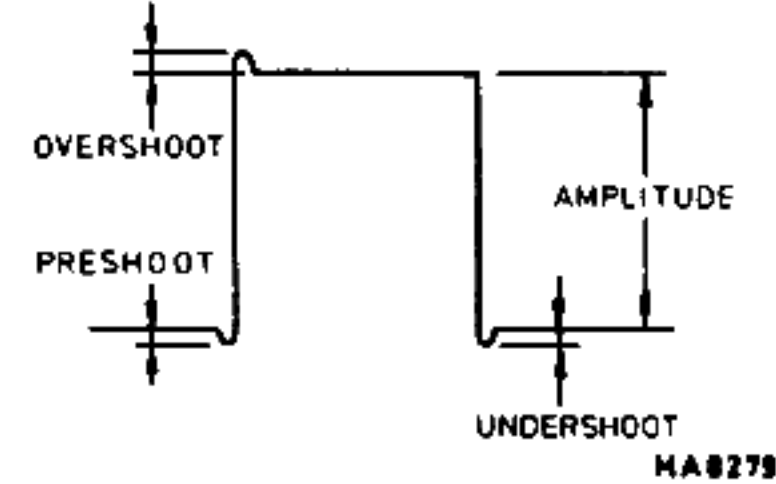

Fig. IX-12. Definition of distortion
– Check preshoot, overshoot and undershoot (see Fig. IX-12) for each set of control settings given in table: